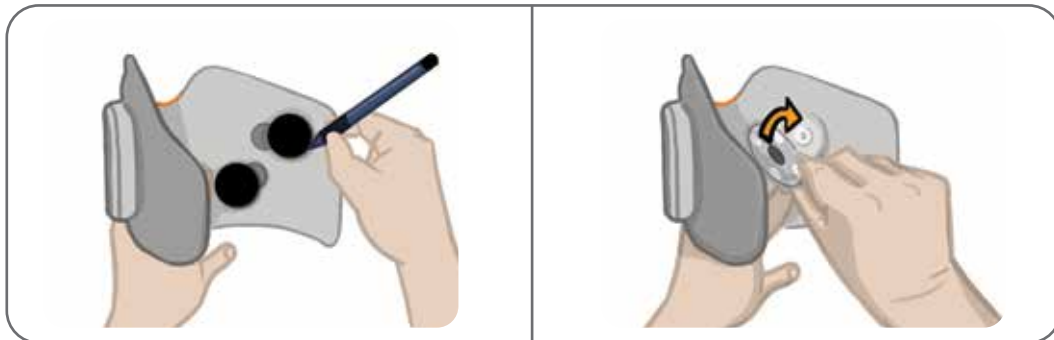

Figure 8-7: Mark Position of Electrode Base (Left)
2. Mark the position of the used electrode bases on the Lower Leg Cuff liner with a permanent marker. See Figure 8-7.